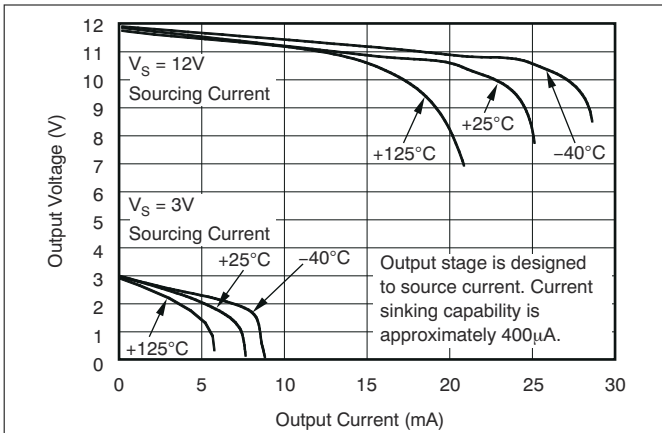

Figure 6-7. Positive Output Voltage Swing vs Output Current
- (1) Offset is extrapolated from measurements of the output at 20 mV and 100 mV V_{SENSE} .
- (2) Total output error includes effects of gain error and V_{OS} .
- (3) Linearity is best fit to a straight line.
- (4) For details on this region of operation, see the Accuracy Variations section in the Section 8.4.
- (5) See Figure 6-7.